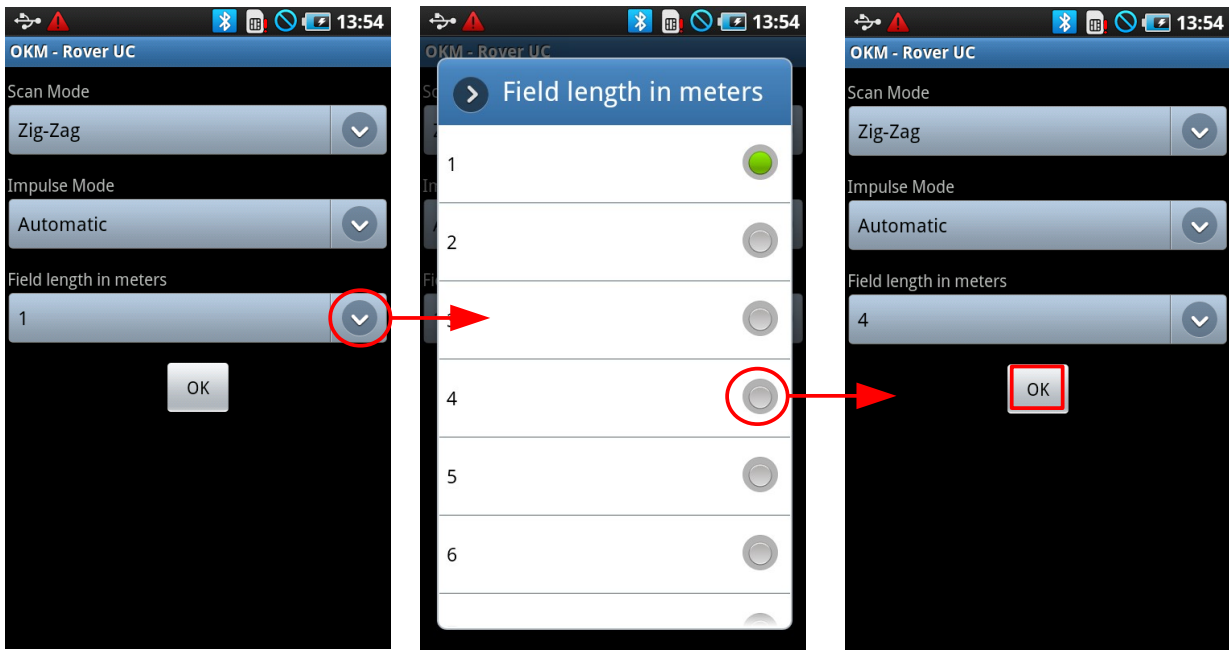

Figure 10.2: Adjusting scan parameters
Align yourself with the start point ❶ of the scan area. Be sure that the telescopic antenna and the smart phone are powered on. Open up the application "OKM - Rover UC" and select the "3D Ground Scan" option. The parameter menu will now be open as shown in figure 10.2.